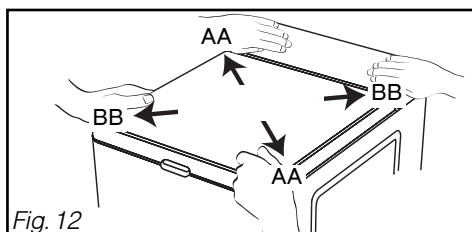

Fig. 12
– Check the stability of the machine by pressing on the lid in a diagonal direction (direction AA then direction BB) (Fig. 12). **There must be no visible movement of the appliance.**